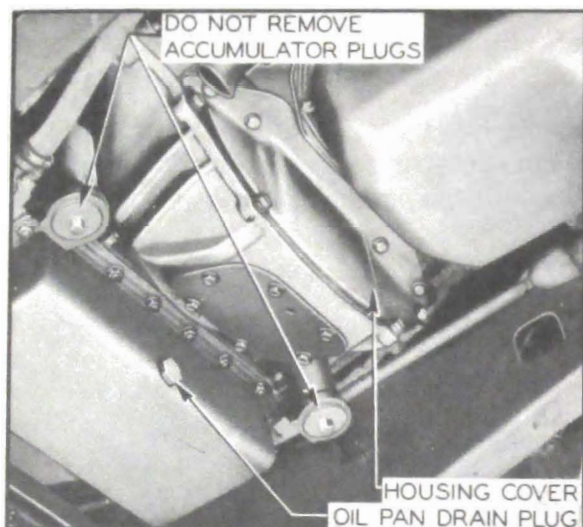

Figure 1-15—Bell Housing Cover and Oil Pan
1. Warm up transmission, then remove bell housing cover. See figure 1-15.
3. Remove drain plug and allow oil pan to drain completely. *Do not remove accumulator plugs.* See figure 1-15.
5. Put 3 quarts of specified oil (subpar. a) in transmission. With engine idling and transmission in Parking (P) complete the refilling to bring oil level to $1\frac{3}{4}$ " below "FULL" mark on gauge rod. When transmission is warmed up, the oil level should then be at "FULL" mark on gauge rod.